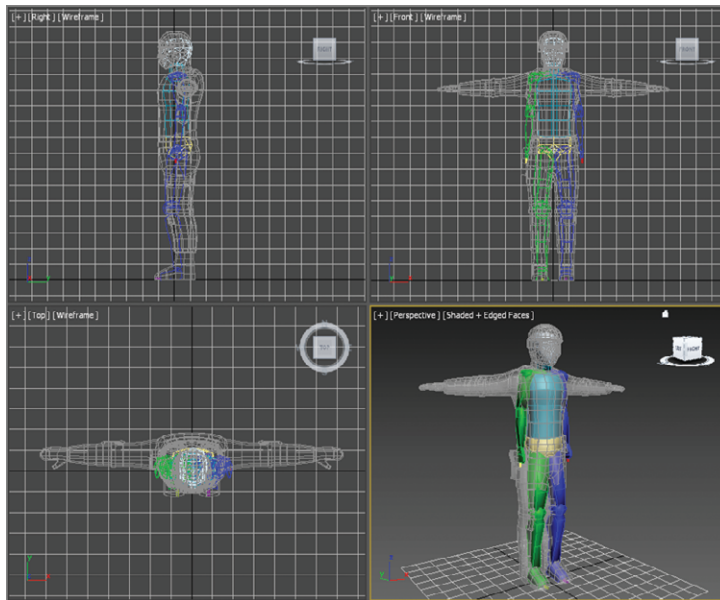

FIGURE 12.3 Create a bipod about the same height as the soldier model.
4. Create a bipod with a height about the same as the soldier's. This will make most of the bipod's parts similar in size to those of the soldier, as shown in Figure 12.3.